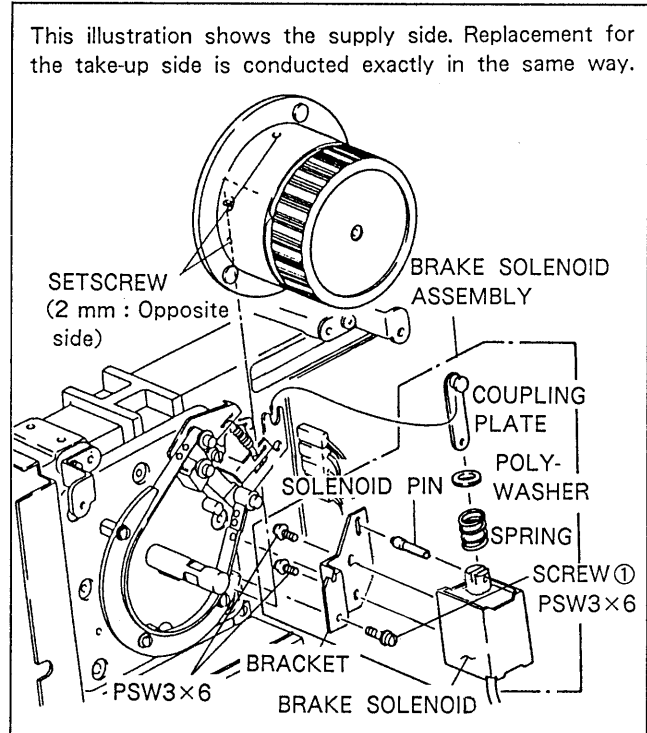

Fig. 6-8-1. Brake Solenoid Replacement
2. As in Fig. 6-8-1, remove the screw ① and remove the brake solenoid assembly.
3. Disassemble the brake solenoid assembly while referring to the Fig. 6-8-1.